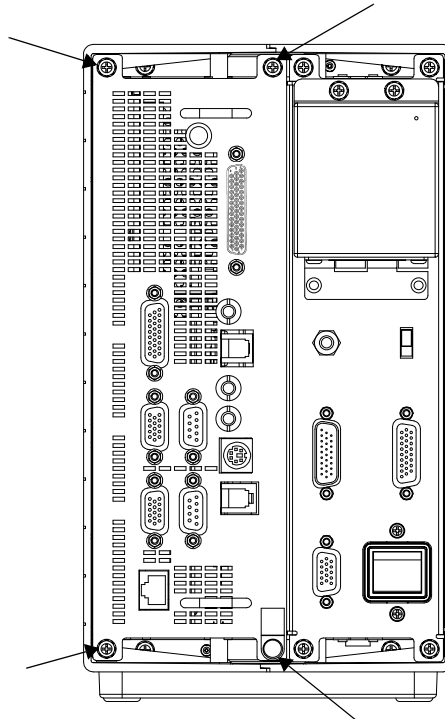

Figure 4-11: Screw placement for drawer assembly
2. Remove the screws (refer to *Figure 4-11* below) that attach the rear panel to the 90387.